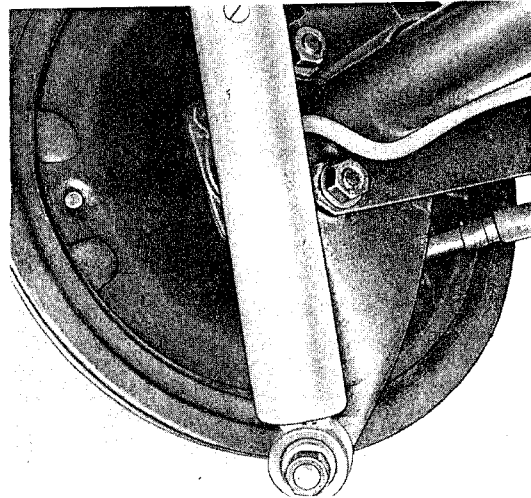

Fig. 17
1. Loosen screws on bearing flange of axle tube and stop screw (See fig. 17).